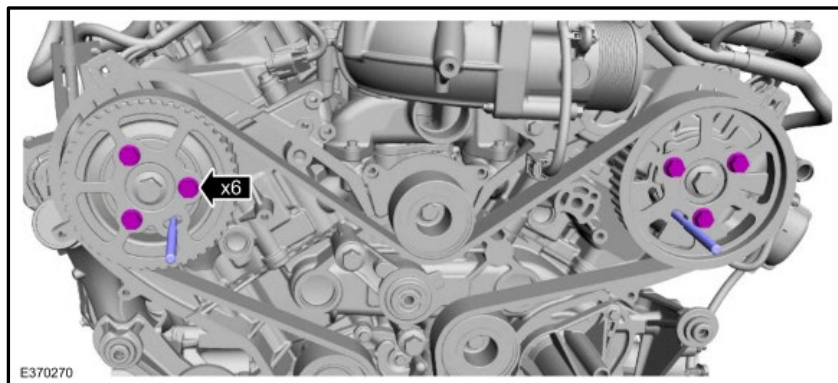

Figure 13
H. Loosen the camshaft pulley bolts. Figure 13.